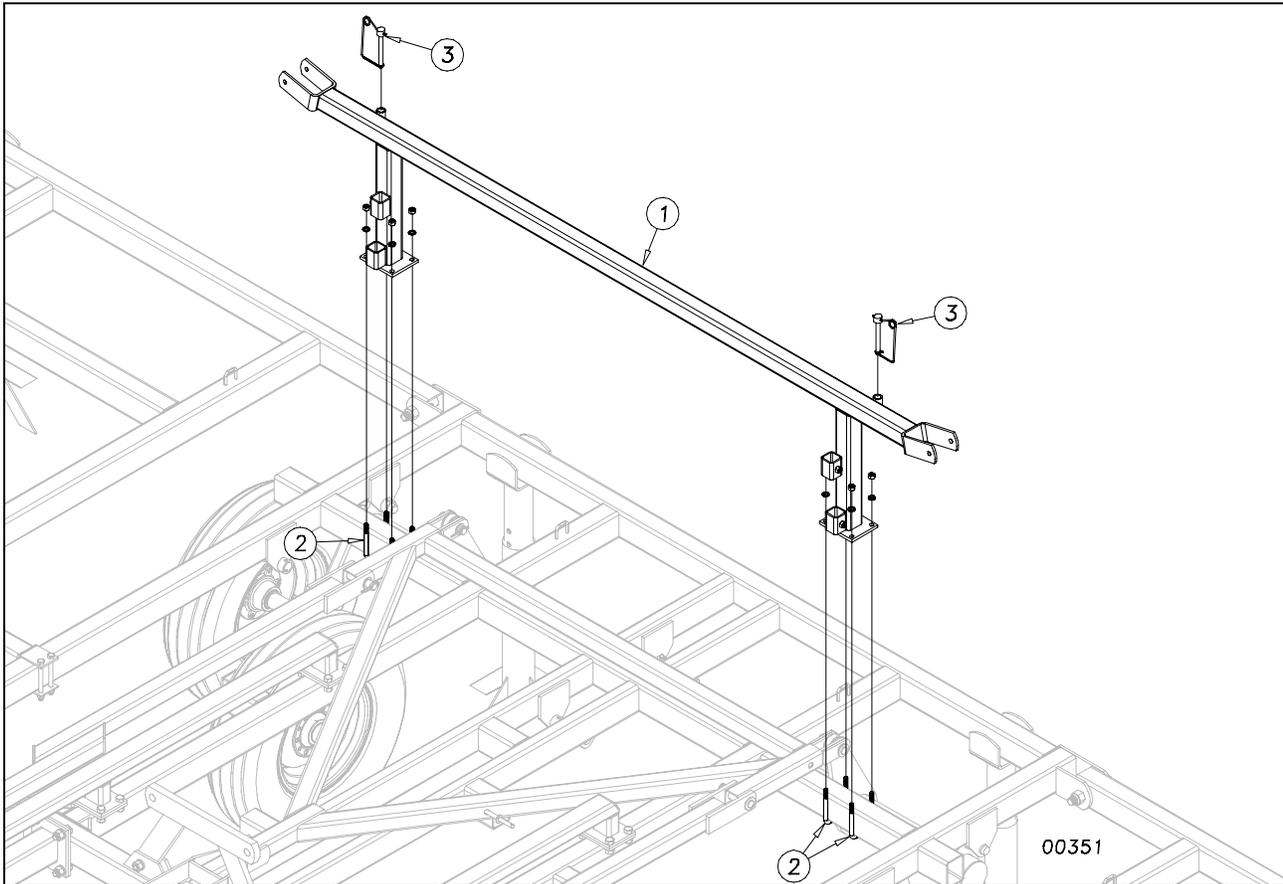

Figure 9
U-bolt the center wing stop (1) to the second bar from the rear on the center frame as shown in Figure 9. Use 1/2 x 3 x 5 u-bolts (2) with lock washers and hex nuts. Center the